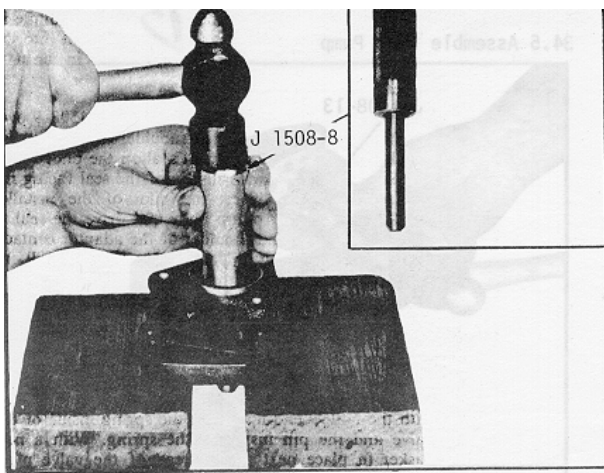

Fig. 8 Installing Inner Oil Seal
- (1) Lubricate the lips of the oil seals with a light coat of vegetable shortening, then install the oil seals in the pump body as follows:
- (b) With the pump body supported on wood blocks (Fig. 8), insert the pilot of the installer handle in the pump body so